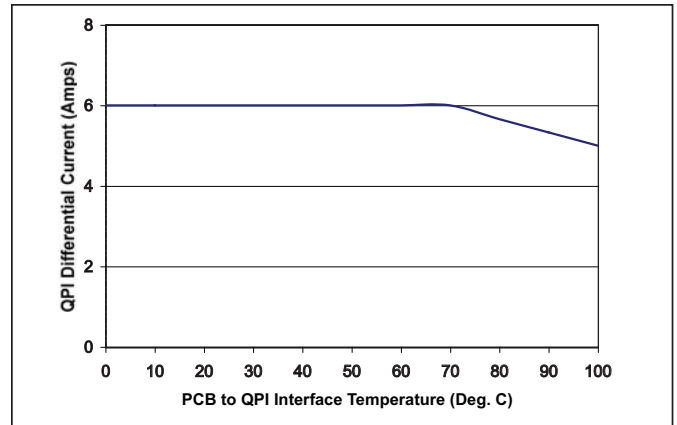

Figure 5 – QPI-7 current derating curve over temperature.
- -40° to +100°C PCB temperature (See Figure 5)
**Note 3:** Refer to Figure 5 for current derating curve.
The QPI-7's high-temperature 6 amp rating provides filtering for up to 144 watts of power from a 24 V bus with a 70°C PCB temperature. The 1.0" x1.0" x 0.2" surface mount LGA package provides ease of manufacturing by eliminating through-hole assembly. The current de-rating curve shown in figure 5 should be used when the PCB temperature that the QPI-7 is mounted to exceeds 70°C.